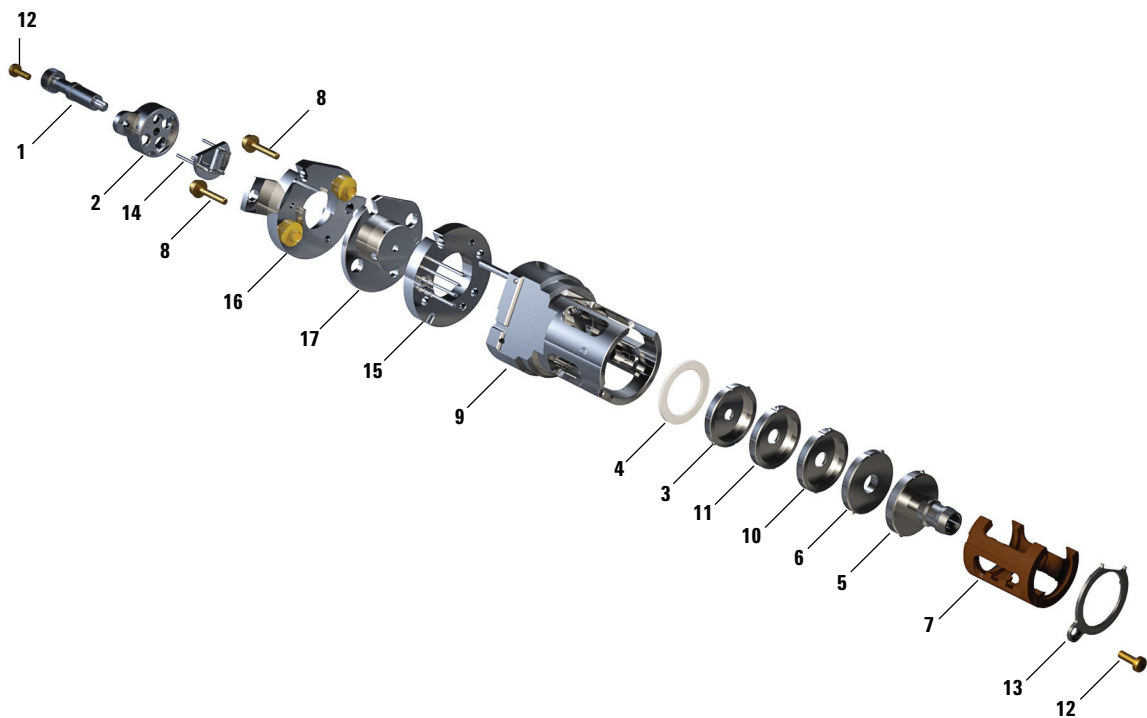
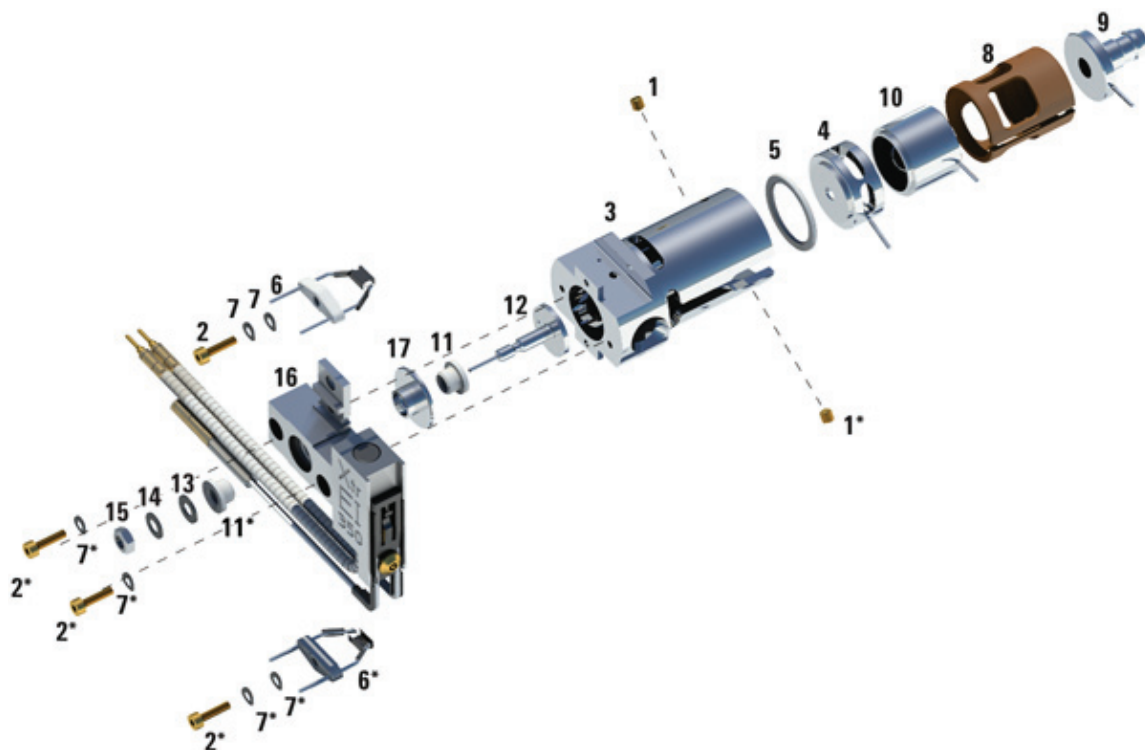

Figure 32. Exploded parts view of the EI HES
Figure 33. EI XTR or HydroInert source structure
The EI HES and the EI XTR ion source operate by electron impact ionization. (See **Figure 32** on page 153 and **Figure 33** on page 155.) The sample enters the ion source from the GC/MS interface. Electrons emitted by a filament enter the ionization chamber, guided by a magnetic field. The high-energy electrons interact with the sample molecules, ionizing and fragmenting them. The positive voltage on the repeller pushes the positive ions into the lens stack, where they pass through several electrostatic lenses. These lenses concentrate the ions into a tight beam, which is directed into the mass filter.
The HES body (9) is a cylinder. (See **Figure 32** on page 153.) It holds the other parts of the source, including the lens stack (items 3, 11, 10, 6, and 5). The repeller (item 17), source mount (item 16), and filament block (item 2) form the ionization chamber. The ionization chamber is the space where the ions are formed. Slots in the source body help the vacuum system to pump away carrier gas and un-ionized sample molecules or fragments.
The EI XTR source body is a cylinder. (See **Figure 33** on page 155.) It holds the other parts of the source, including the lens stack. With the repeller, it forms the ionization chamber. The ionization chamber is the space where the ions are formed. Slots in the source body help the vacuum system pump away carrier gas and unionized sample molecules or fragments. The CI source is similar in design to the EI XTR source, but critical dimensions are different. Do not interchange parts.
Table 7 Parts list for EI HES (Figure 32)
Table 7 Parts list for EI HES (Figure 32) (continued)
Table 8 Parts list for EI XTR and HydroInert source (Figure 33)
Table 8 Parts list for EI XTR and HydroInert source (Figure 33) (continued)
For the HES, two filaments are located on a single assembly located on the center of the EI HES. (See item 14 in **Figure 32** on page 153.) For the EI XTR source, two filaments are located on opposite sides of the source body. (See item 6 in **Figure 33** on page 155.) The *active* filament carries an adjustable AC emission current. The emission current heats the filament causing it to emit electrons which ionize the sample molecules. In addition, *both* filaments have an adjustable DC bias voltage. The bias voltage determines the energy on the electrons, usually -70 eV.
The extractor lens is a part of the EI source. (See **Figure 32** on page 153.) This lens replaces the drawout plate and cylinder on a CI source, but performs a similar function. A voltage is applied to the extractor lens to increase focusing in the EI source.
The voltage on post extractor 1 (Lens 4) and post extractor 2 (Lens 3) can be varied. (See **Figure 32** on page 153.) A typical voltage for Lens 4 is between -5 and -15 VDC. A typical voltage for Lens 3 is between -20 to -32 VDC.
The voltage on the ion focus lens can be varied from 0 to -127 VDC. (See **Figure 32** on page 153.) A typical voltage VDC is between -70 and -90 VDC. In general:
The entrance lens is at the entrance to the Quad. (See **Figure 32** on page 153.) This lens minimizes the fringing fields of the quadrupole which discriminate against high-mass ions.
The extractor lens is a part of the EI source. (See **Figure 33** on page 155.) This lens replaces the drawout plate and cylinder on a CI source, performing a similar function, but is not interchangeable with the drawout plate and cylinder. A voltage is applied to the extractor lens to increase focusing in the EI source.